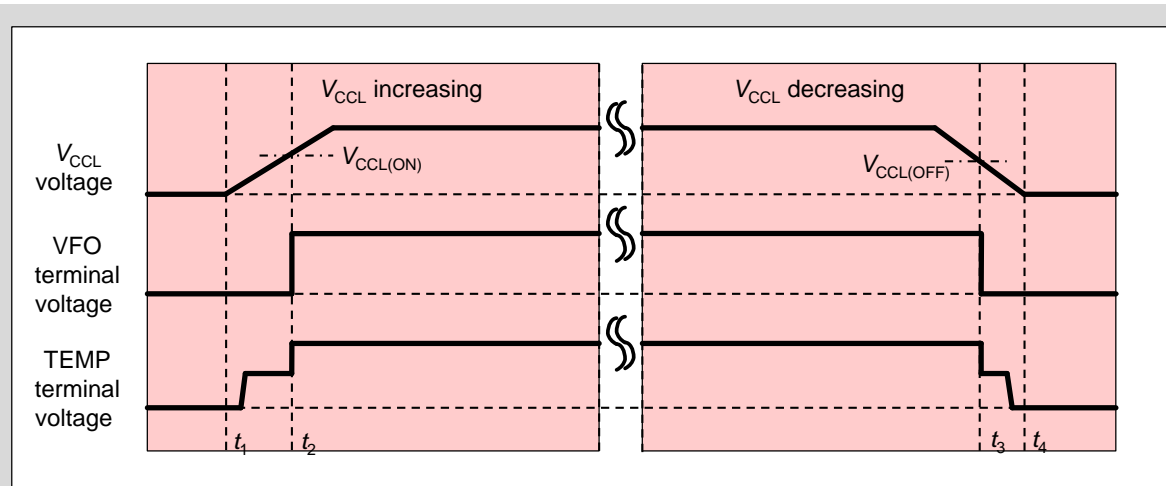

Fig.3-26 Operation sequence of TEMP terminal during LVIC startup and shut down conditions
- Fig.3-26 shows the operation sequence of TEMP terminal at during the LVIC startup and shut down conditions.